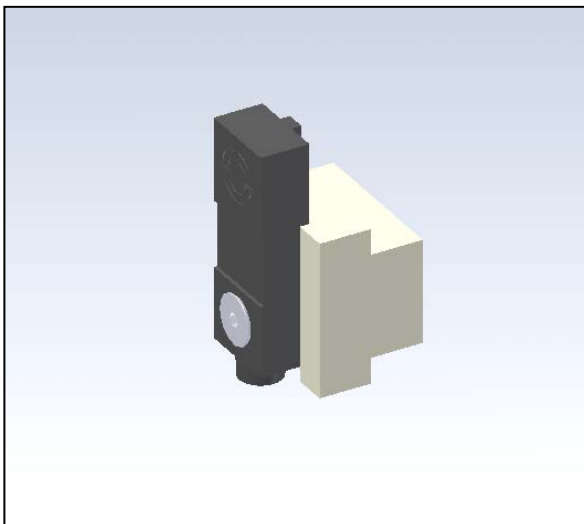

Figure 3-354. Sensor Mounting Block
10. Remove the sensor from the mounting block, and install the new sensor (Figure 3-354).